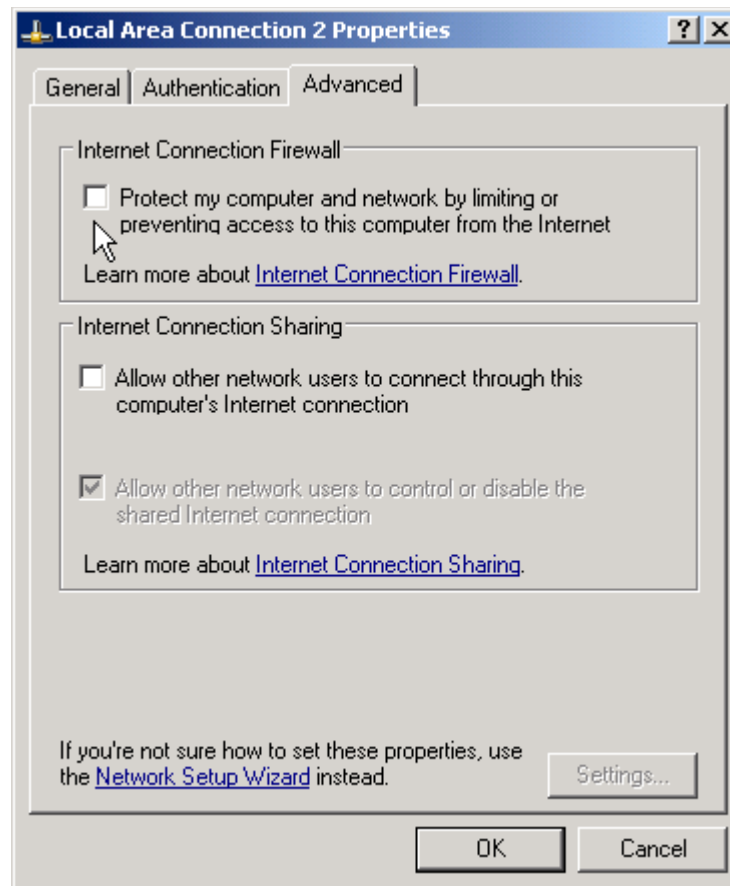

Figure 1.
5. When the **Local Area Connection Properties** dialog opens, ensure that the check boxes are un-checked and click **OK** to save (see Figure 1).